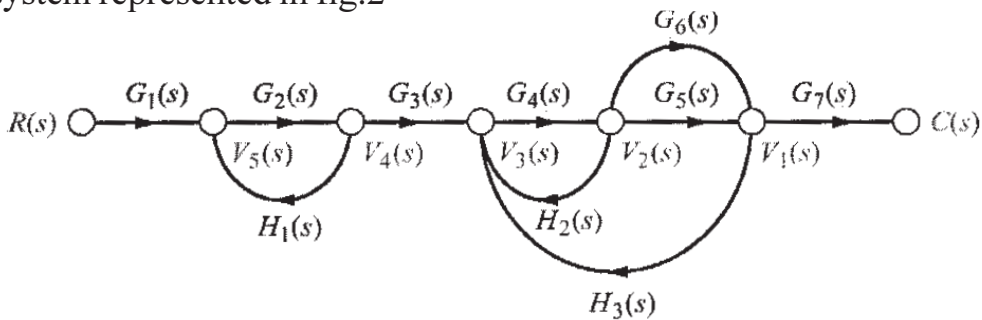

Fig.2
- Q2)** a) Using Mason's rule find the transfer function, $T(s) = C(s)/R(s)$, for the system represented in fig.2 [8]